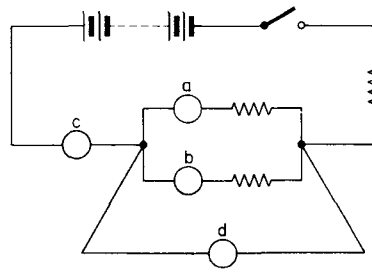

Fig. 3.179
9. The instruments marked a, b, c and d in Fig. 3.179 are either voltmeters or ammeters. State which.